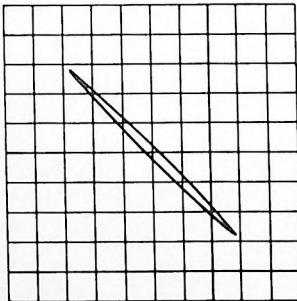

FIG. 1
- g. Now connect the horizontal input to the left channel output. Run the tape to the 400 Hz section. A pattern such as Figure 1 should now appear. If not, reverse the two leads of the horizontal input. This pattern represents the "0" or near "0" phase shift pattern of the system.